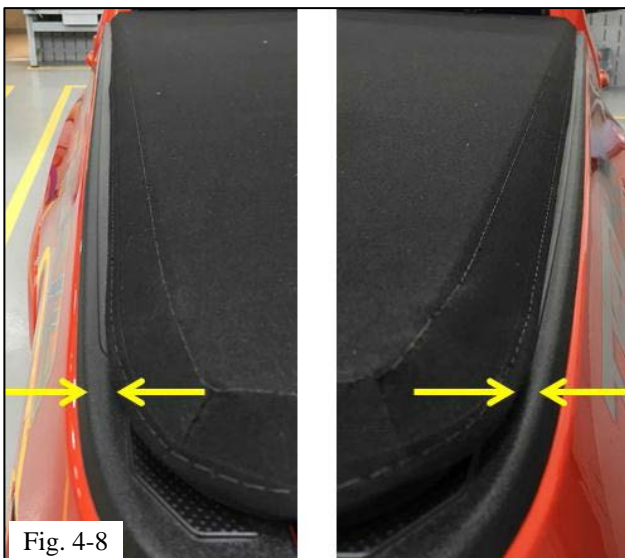

Fig. 4-8
- (h) Unfold cover and visually check for side-to-side alignment (Fig. 4-8).